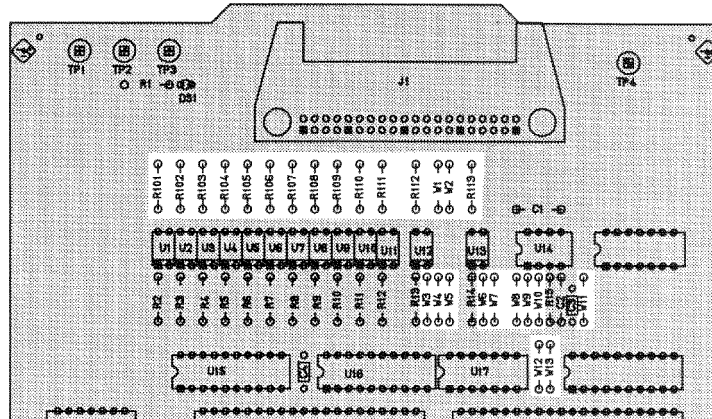

Figure 10-17. Jumper Settings
7. Connect the handler interface connector on the 4284A's rear panel with the handler simulator as shown in Figure 10-17.